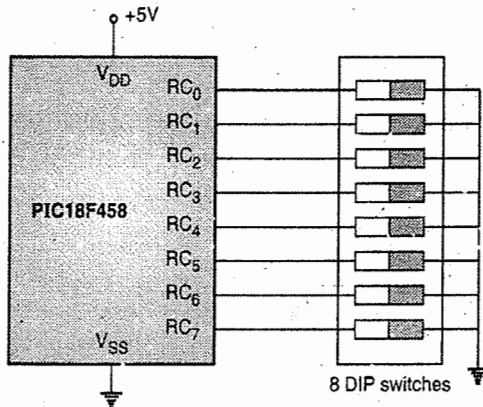

Fig. 10.1.1 : Interfacing 8 DIP switches to port C of PIC18F458
- Fig. 10.1.1 shows the interfacing of DIP switches to PIC microcontroller.